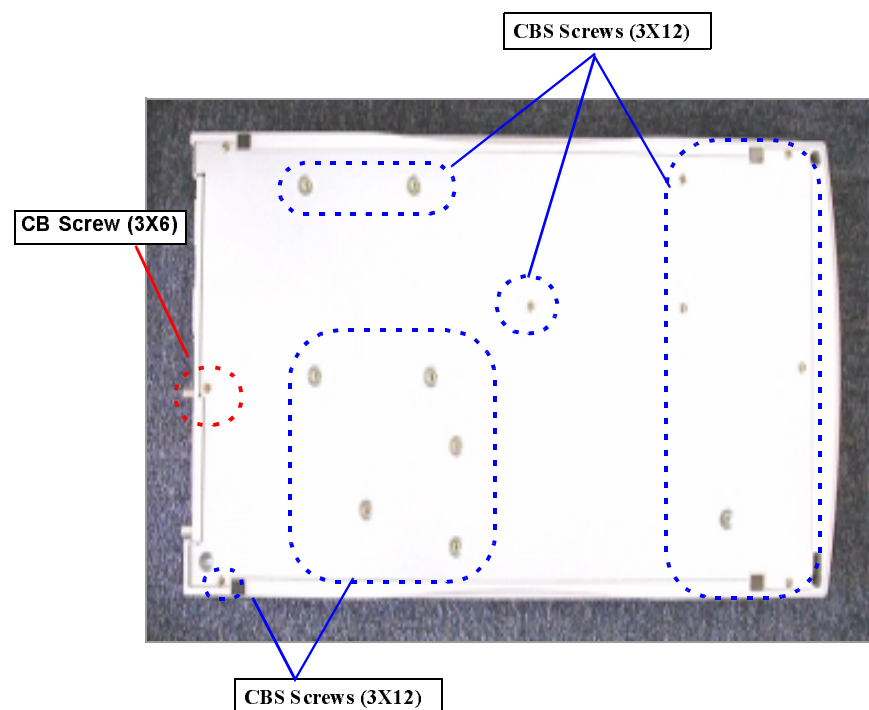

Figure 4-7. Bottom Plate Removal
2. Turn the scanner over and remove the sixteen screws (CBS, 3x12) and the other one (CB, 3x6), and then remove the Bottom Plate. (See Figure 4-7.)